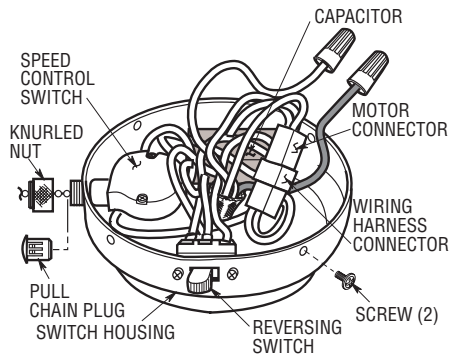

Figure 11
- 1. Remove and retain the screws securing the housing cover to the switch housing (Figure 11).
- 2. **All Ceiling Fan Models.** Disconnect the motor connector from the wiring harness connector (Figure 11). Remove the knurled nut securing the speed control switch to the switch housing and place the pull chain plug in the exposed hole.